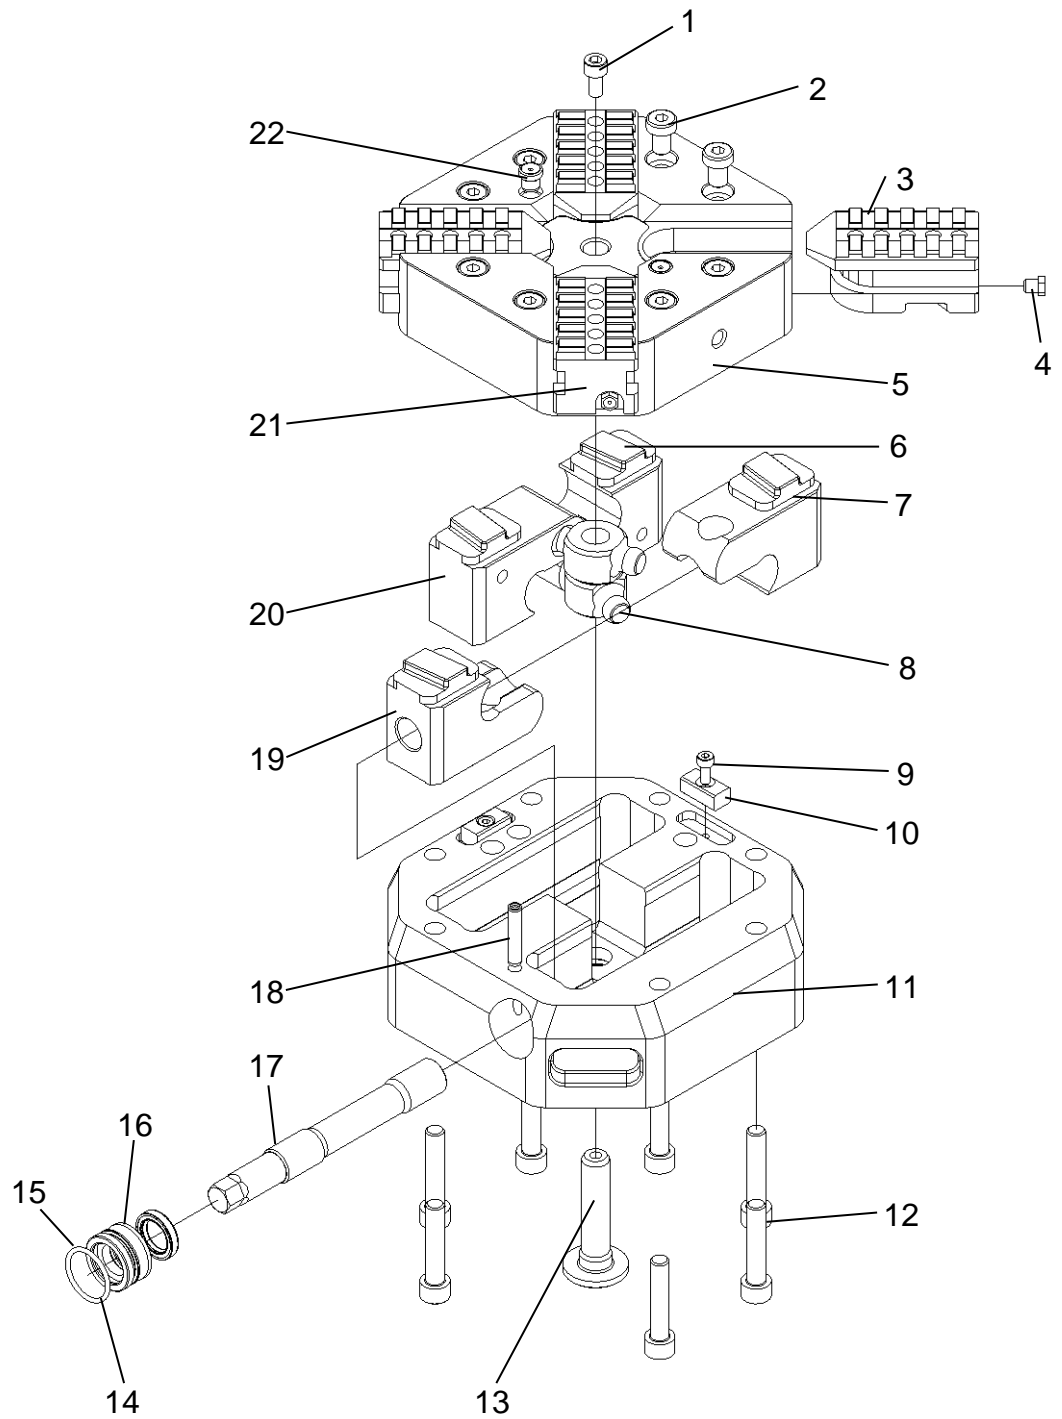

Fig. 8-1: Spare parts list InoFlex® VF016 – VF026
- Step 1** Look for the desired part in figure 8-1
Step 1 Look for the desired part in figure 8-1.